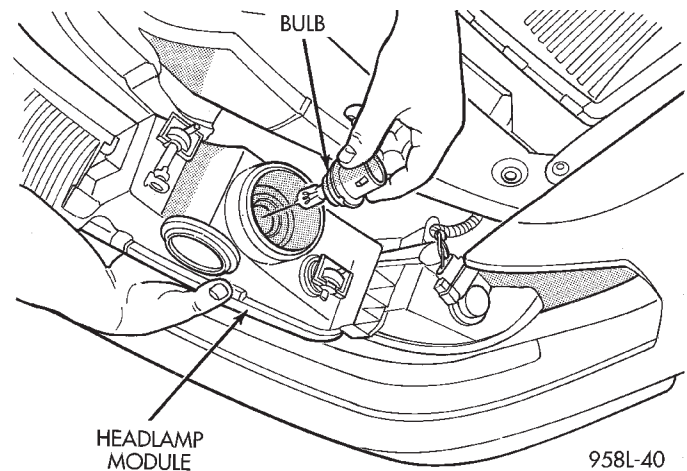

Fig. 3 Headlamp Bulb
- (7) Pull bulb from headlamp module (Fig. 3).